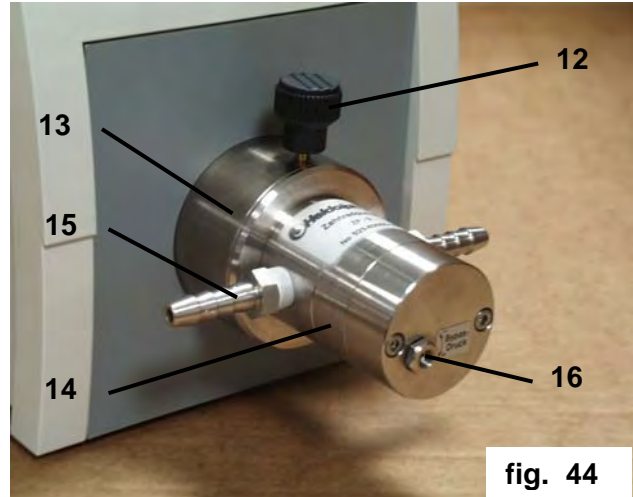

fig. 44
6. Install geared pumps (fig. 44)
- Turn setscrew (12) on flange (13) counter-clockwise until geared pump (14) can be introduced.
- Install geared pump (14) in flange (13). At this point make sure hose nipples (15) are horizontal and by-pass adjusting screw (16) is on the left.
- Pull setscrew (12) tight by turning clockwise.